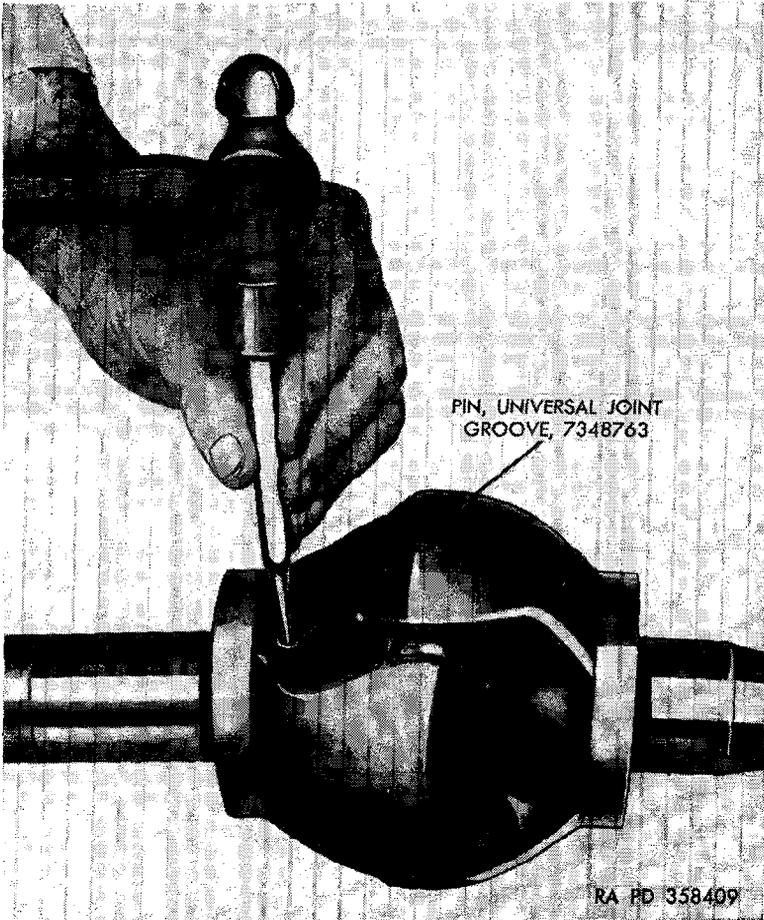

Figure 61. Removing Bendix universal joint groove pin.
c. Remove Universal Joint Groove Pin (fig. 61). Place the axle shaft in a vise equipped with protectors and with a long-nosed drift, remove the universal joint groove pin from the universal joint. Remove the axle shaft from vise.